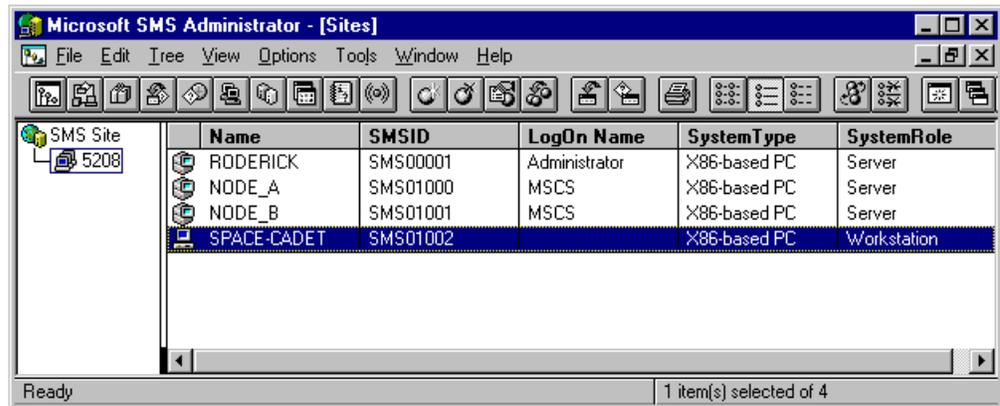

Figure 145. The SMS console showing a small site.
6. The client should now appear automatically in the client group section of your SMS server. The configuration changes appear after the client computer has been restarted. You can see in Figure 145 on page 188 that the clients are accessed on the left had panel of the sites view.